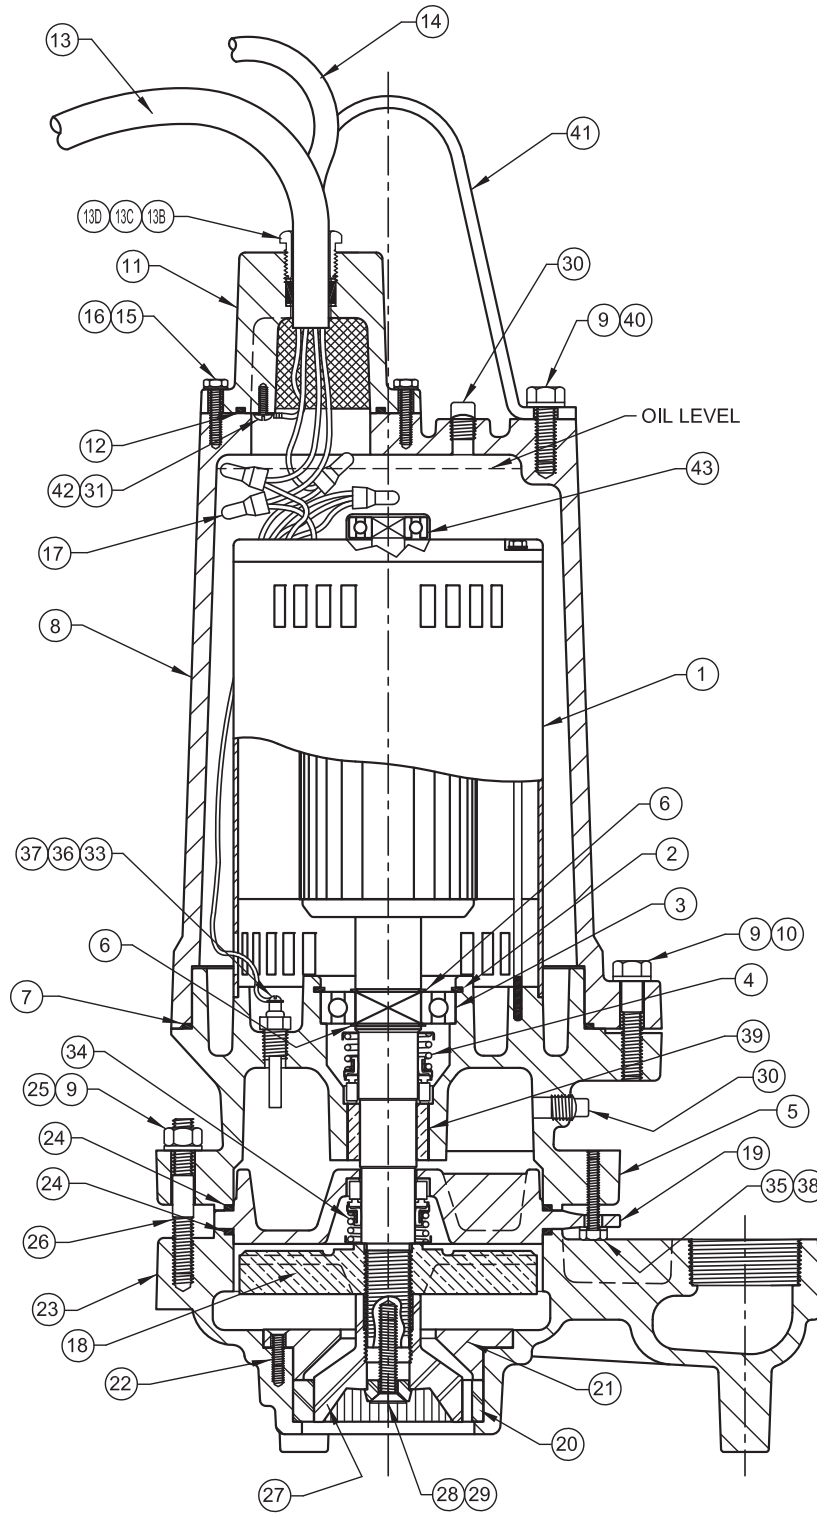

Figure 7
**Cable Assemblies** - Power cable, Place one friction ring (13C), grommet (13D), one friction ring (13C) and hex plug (13B) into conduit box (11). Control Cable, Place one friction ring (14C), grommet (14D), one friction ring (14C) and hex plug (14B) into conduit box (11). Torque hex plugs to 15 ft. lbs. to prevent leakage. See Figures 7 & 8.
**Seal Plate** - Lubricate and set square ring (24) in bottom groove of seal plate (19). Place seal plate (19) over shaft and onto intermediate coupling (5), being sure square ring (24) is not twisted and in the groove. Place two capscrews (35) with lockwashers (38) into seal plate and torque to 6.5 ft/lbs.
**Outer Seal** - Clean and oil stationary seal cavity in seal plate (19). Slide seal guide tool over motor shaft. Lightly oil (**Do not use grease**) outer surface of seal's (34) stationary member.